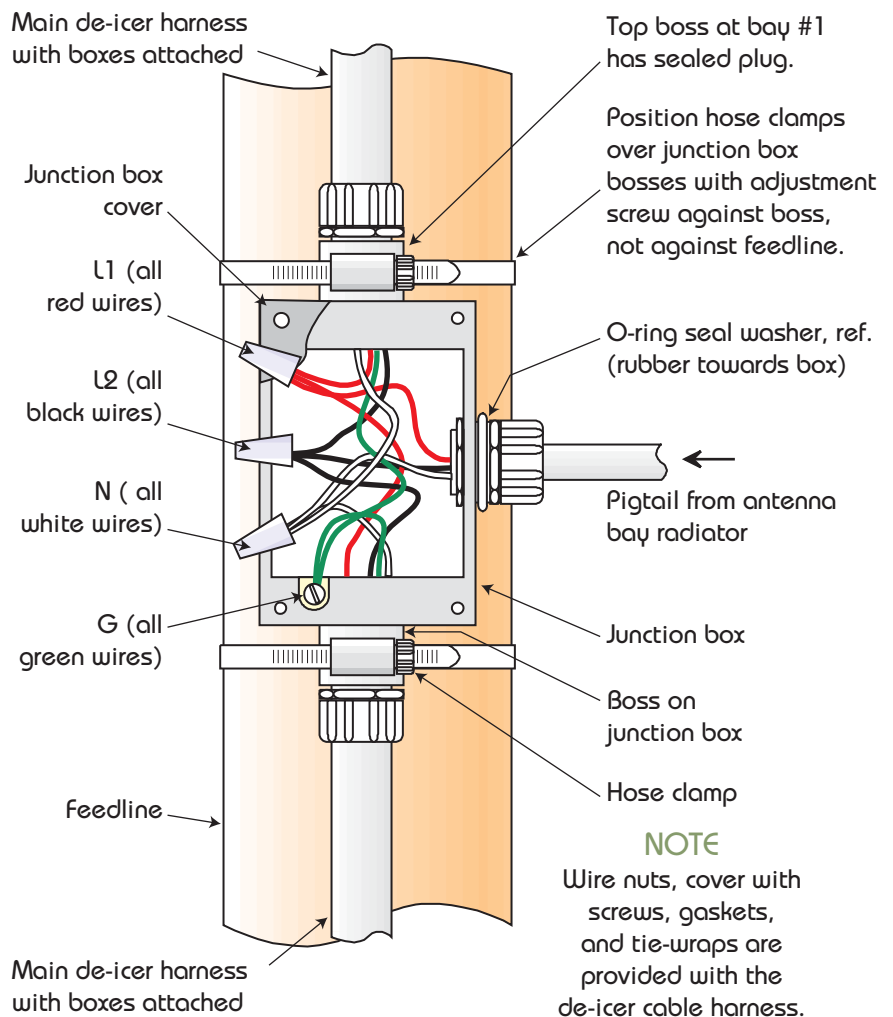

Figure 1. Bay junction box installation
- Install the main de-icer harness with its bay junction boxes as shown in the installation drawing and Figures 1 and 2.
- Connect the leads from each bay de-icer to the main harness in that bay's junction box as shown in Figure 1. Secure any slack in these cables to the feedline with tie-wraps to avoid wind damage.